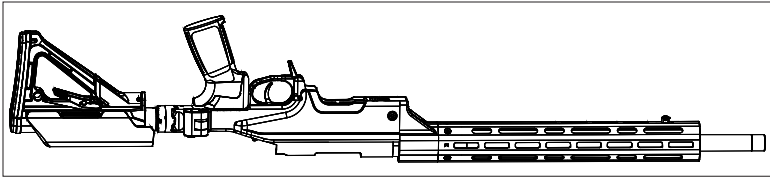

Figure 31 - SABER M700 Upside-Down
2. Using a gun vise or rifle maintenance cradle, securely place the rifle upside down in the fixture with the shoulder stock extended securing it in place. (Fig 31)